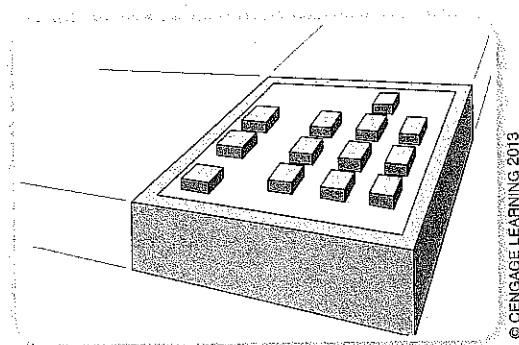

Figure 5-65: Two-point perspective remote.
- Step 5.** Now try drawing the remote in isometric view (shown in Figure 5-65).